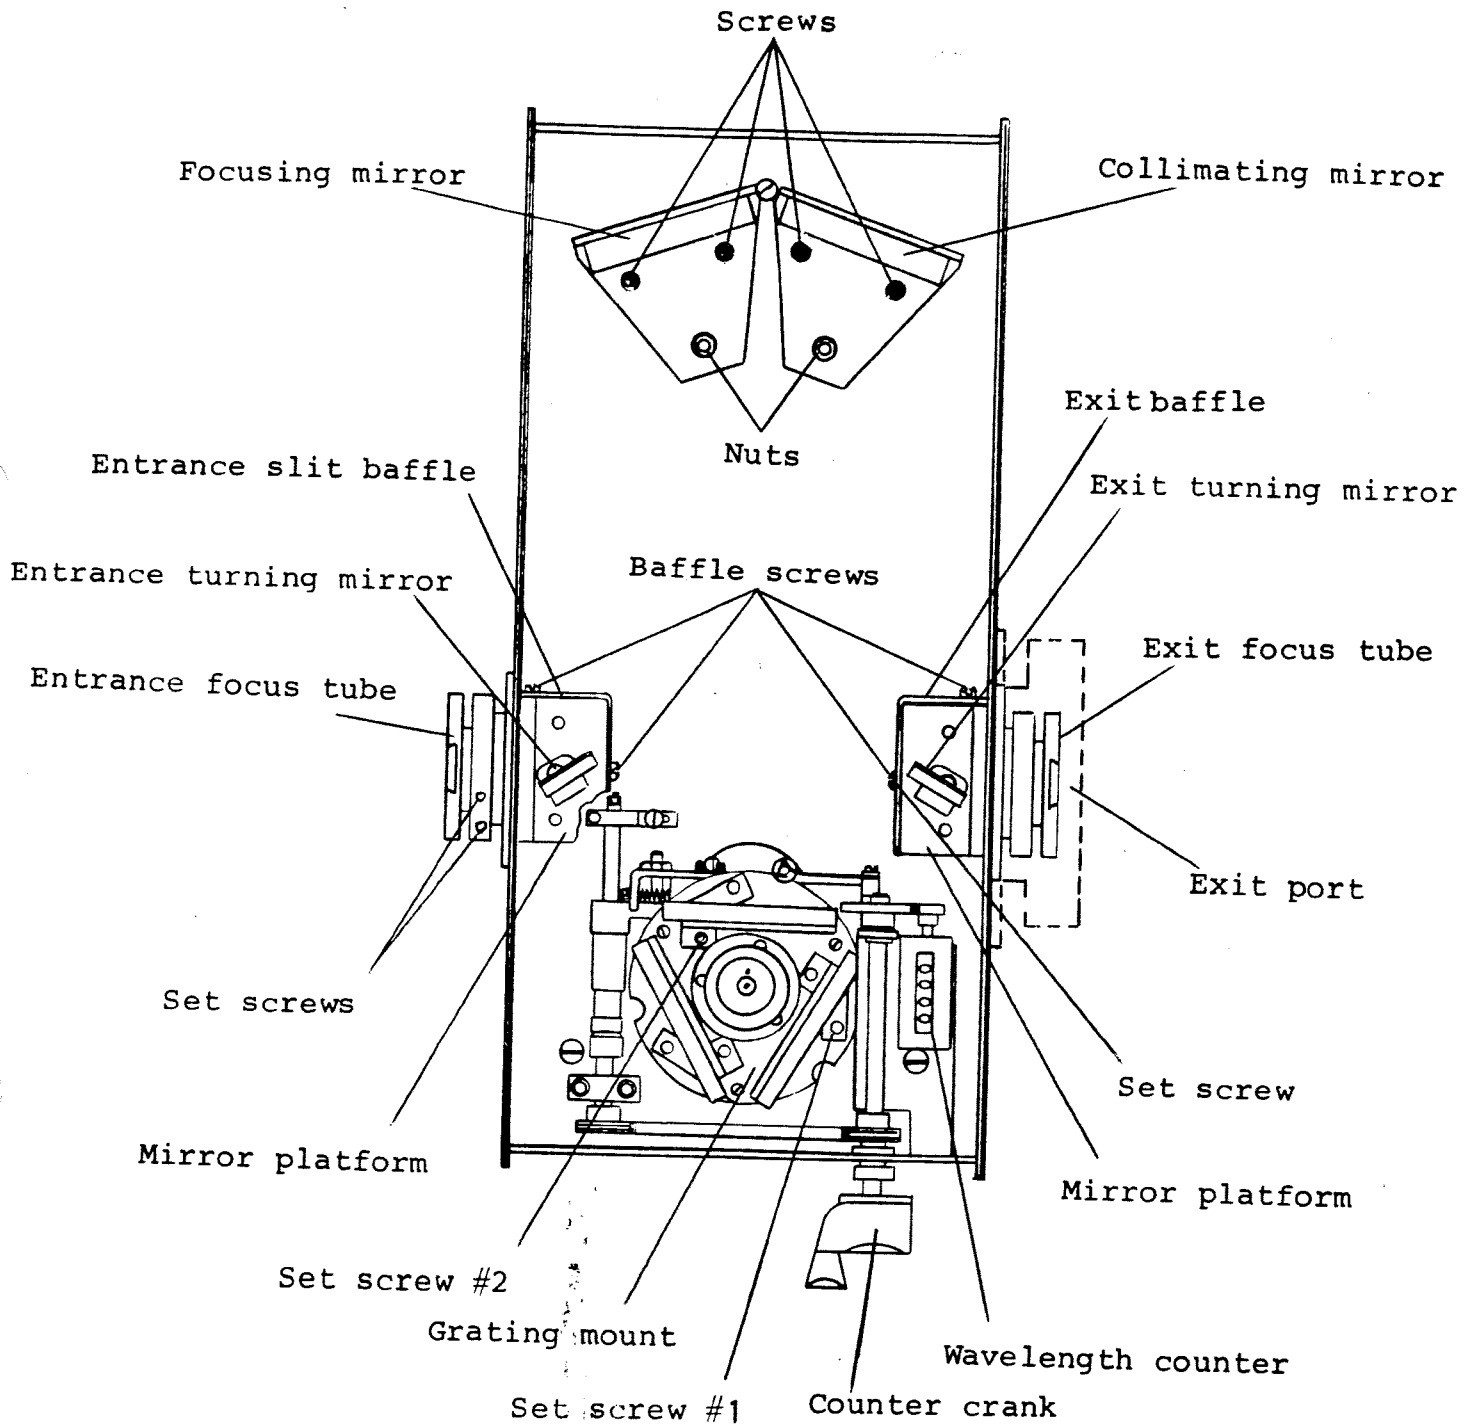

Figure 13. Assemblies for optical alignment.
Please consult your Thermo Jarrell Ash optical engineer before attempting this procedure. Perform Checking the Focus, (Section 4.1). If the focus cannot be corrected then align the instruments optics. (Refer to Figures 13 & 14 during alignment). To perform these procedures, you need the following equipment:
4. Remove the entrance slit and exit slit or port baffles by unscrewing the two baffle screws, (See Figure 13).